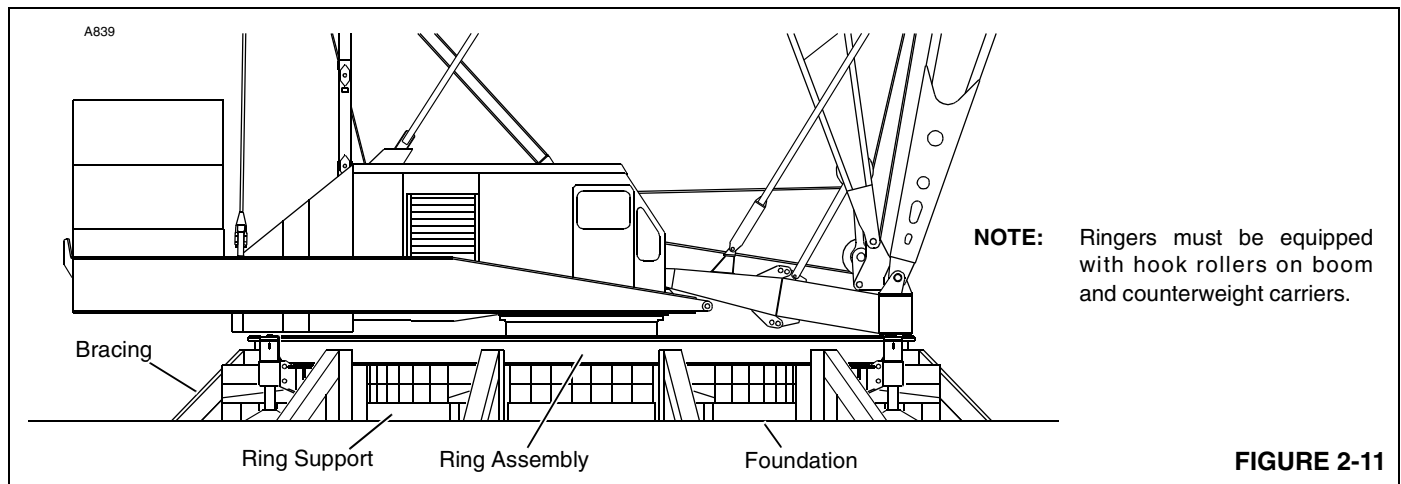

FIGURE 2-11
3. RINGER® (crawler mounted, carbody mounted) supported on blocking, screw jacks or steel pedestals which are braced and fastened to foundation in such a manner as to prevent movement (Figure 2-11).